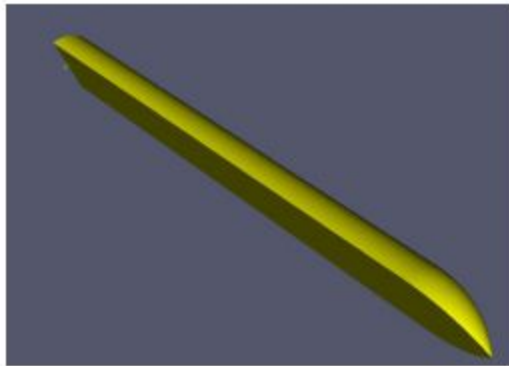

图 5.15: 弹体模型
4. Left click on the component projectile to see half of the model of the complete projectile on the right side of the window, as in Fig 5.15 (trivial)